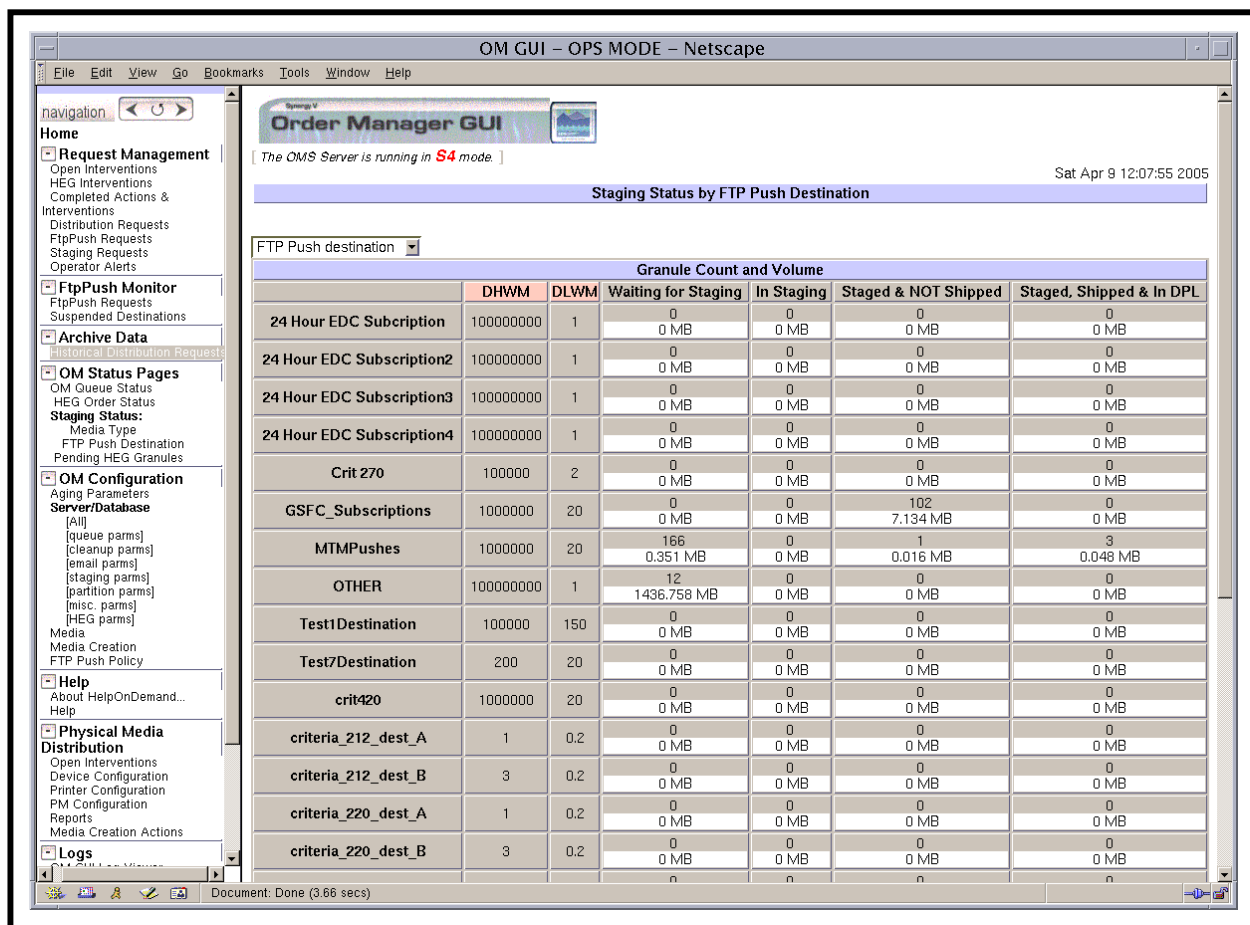

Figure 59. Staging Status by FTP Push Destination Page
- The **Staging Status by FTP Push Destination** page (Figure 59) is displayed.